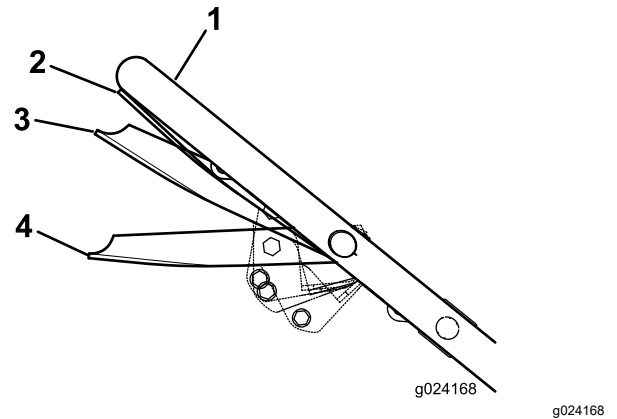

Figure 16
3. Squeeze the blade-control bar against the handle to the Run/Drive position (Figure 16).
**Important:** Shifting speeds while squeezing the blade-control bar against the handle in the Run/Drive position could damage the transmission. Move the blade-control bar to the Run/Shift position (Figure 16) whenever you change the ground speed.